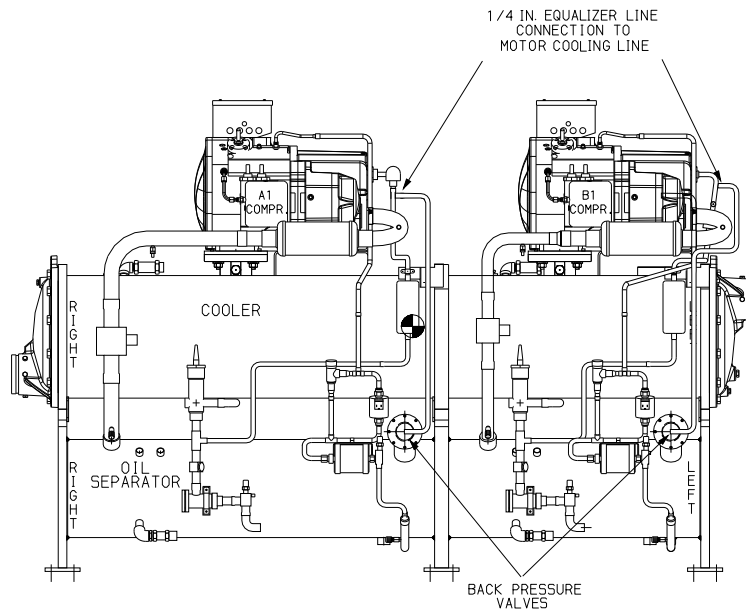

Fig. 18 — 30HXA Units Back Pressure Valve Equalizer Line Connection (076-146 Sizes Shown)
Back-Pressure Valve, 30HXA Units (See Fig. 18 and 19)
1. Be sure to remove nitrogen charge or properly recover refrigerant charge before removing the blank-off plate. Remove the blank-off plate from the mating flange on top of the oil separator by removing the screws from the flange. See Fig. 18 for location.